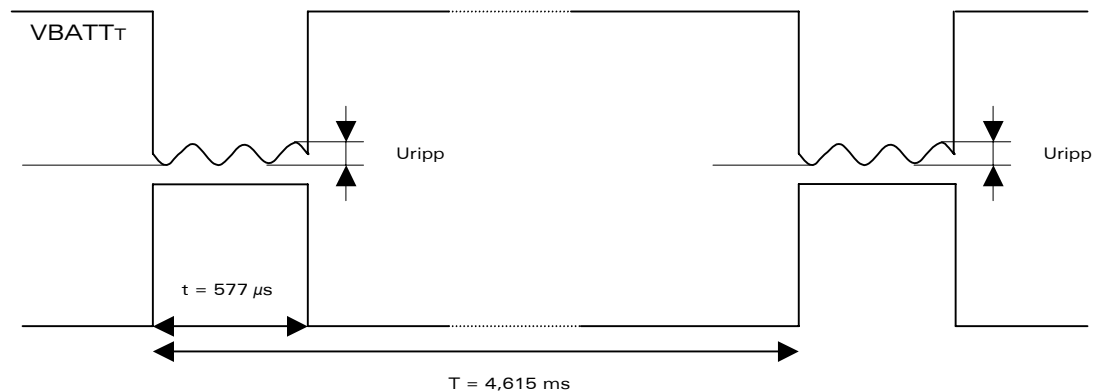

Figure 2: Power supply during burst emission
- In communication mode, a GSM/GPRS class 2 terminal emits 577µs radio bursts every 4.615ms. (see the Figure 2: Power supply during burst emission).